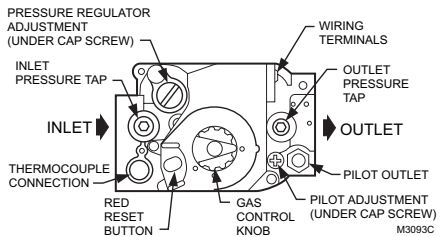

Fig. 5. Top view of gas control.
Models with slotted pressure regulator cap, (see Fig. 5), require a conversion kit. Gas controls with standard or slow opening regulators can be converted from one gas to the other with a conversion kit (ordered separately). Order part no. 393691 to convert from natural (manufactured) to LP gas; order part no. 394588 to convert from LP to natural (manufactured) gas. Follow instructions provided with kit. Gas controls with step opening regulators cannot be converted.
6. Connect pipe to gas control inlet and outlet. Use wrench on the square ends of the control. If a flange is used, place wrench on the flange rather than on the control. (See Figures 5 and 6).
3. Unscrew compression fitting from the pilot outlet. (See Fig. 5). Slip the compression fitting over the tubing and slide tubing out of the way.
1. Remove the pilot adjustment cover screw. (Refer to Fig. 5).